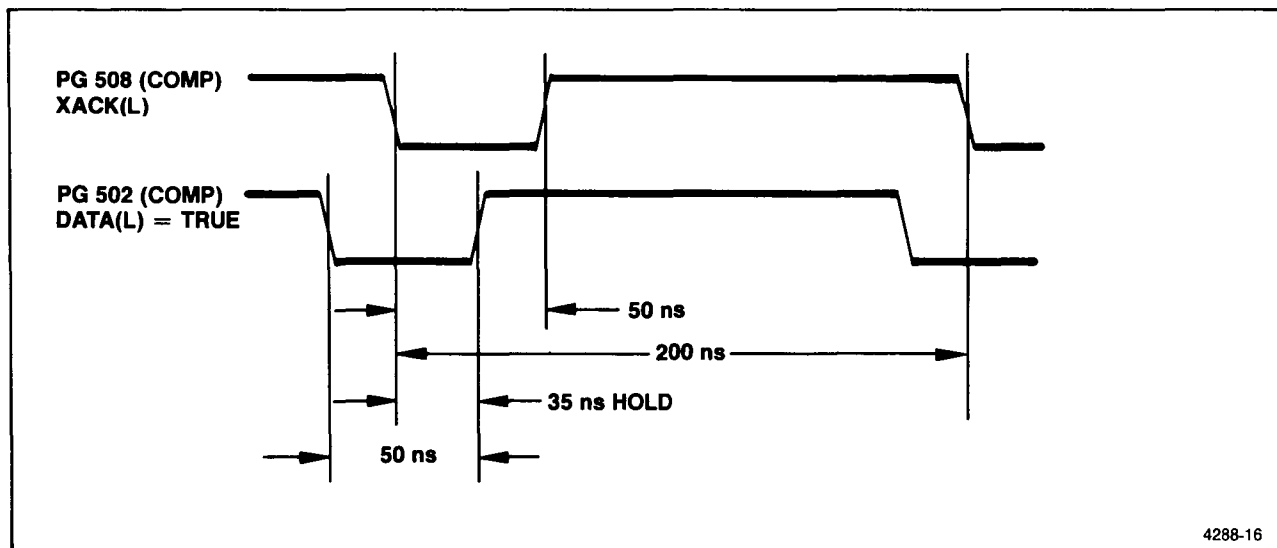

Figure 5-9. DATA hold time (DATA TRUE).
5. Adjust the PG 508 Variable Delay knob so that the rising edge of DATF(L) occurs 35 ns after the falling edge of XACK(L).
6. Confirm that the oscilloscope waveforms are as shown in Figure 5-9.